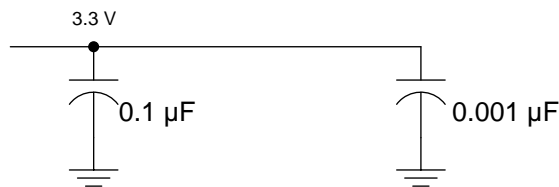

图 12. Recommended LVDS Bypass Capacitor Layout
**图 12** lowers lead inductance and covers intermediate frequencies between the board-level capacitor (>10 μF) and the value of capacitance found above (0.001 μF). Place the smallest value of capacitance as close to the chip as possible.